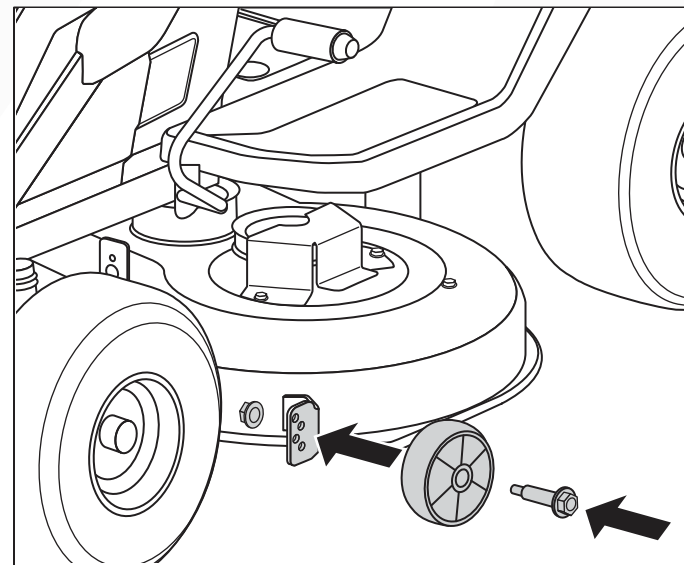

Fig. 5
1. Secure the left anti-scalp wheel with the bolt and nut provided.(Fig. 5)